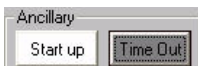

FIG. 114 Ancillary options - Time Out
1. From the *Ancillary* options (in the *System* window), select **Time Out** (FIG. 114):